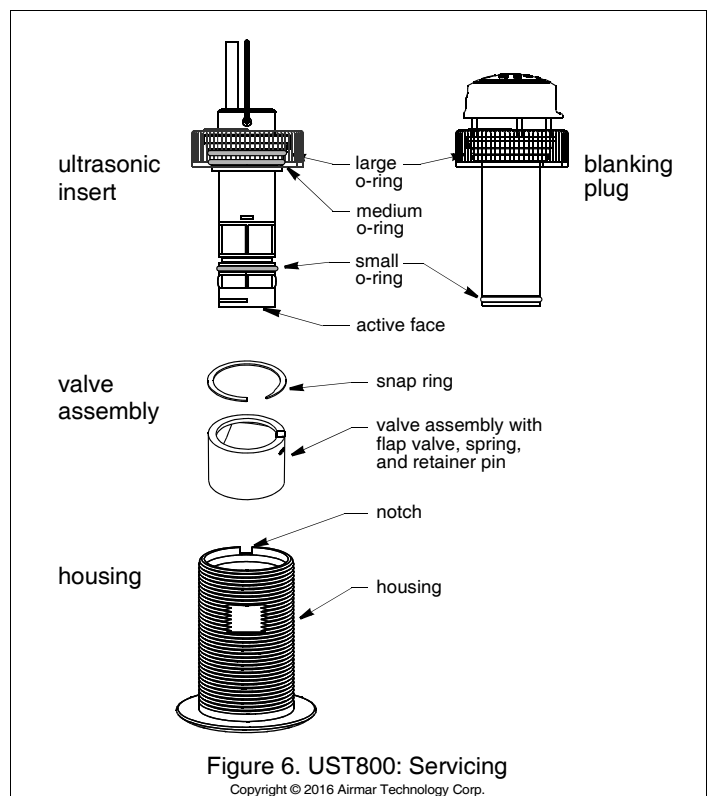

Figure 6. UST800: Servicing
5. The o-rings must be intact and well lubricated to make a watertight seal. After the marine sealant cures, inspect the o-rings on the ultrasonic insert (replace if necessary) and lubricate them with the silicone lubricant supplied (Figure 6 or 7).
The o-rings must be intact and well lubricated to make a watertight seal. Inspect the o-rings (replace if necessary) and lubricate them with the silicone lubricant supplied or petroleum jelly (Figure 6 or 7).
2. Grasp the pull ring and remove the ultrasonic insert with a slow pulling motion (Figure 6).
3. Slide the blanking plug into the housing (Figure 6). Seat it into place with a pushing twisting motion until the key fits into the notch. Screw the cap nut in place. **Hand tighten** only. Do not over tighten.
Aquatic growth will seriously affect the performance of the ultrasonic insert. Clean the active face with a dull putty knife, being careful to avoid scratching the surface (Figure 6 or 7). If fouling is severe, lightly wet sand the active face with fine grade (#320) wet/dry paper.
O-rings must be free of abrasions and cuts to ensure a watertight seal. Install the o-rings on the ultrasonic insert as shown (Figure 6 or 7). The remaining o-rings are placed in similar positions on the blanking plug.
- The o-rings must be intact and well lubricated to make a watertight seal. On the blanking plug, inspect (replace if necessary) and lubricate the o-rings with silicone lubricant or petroleum jelly (Figure 6).
- Remove the snap ring from the valve assembly using a screwdriver to pry the end of the ring free (Figure 6).
- Clean, repair, or replace the valve assembly so the flap valve moves freely and seats against the valve housing (Figure 6).